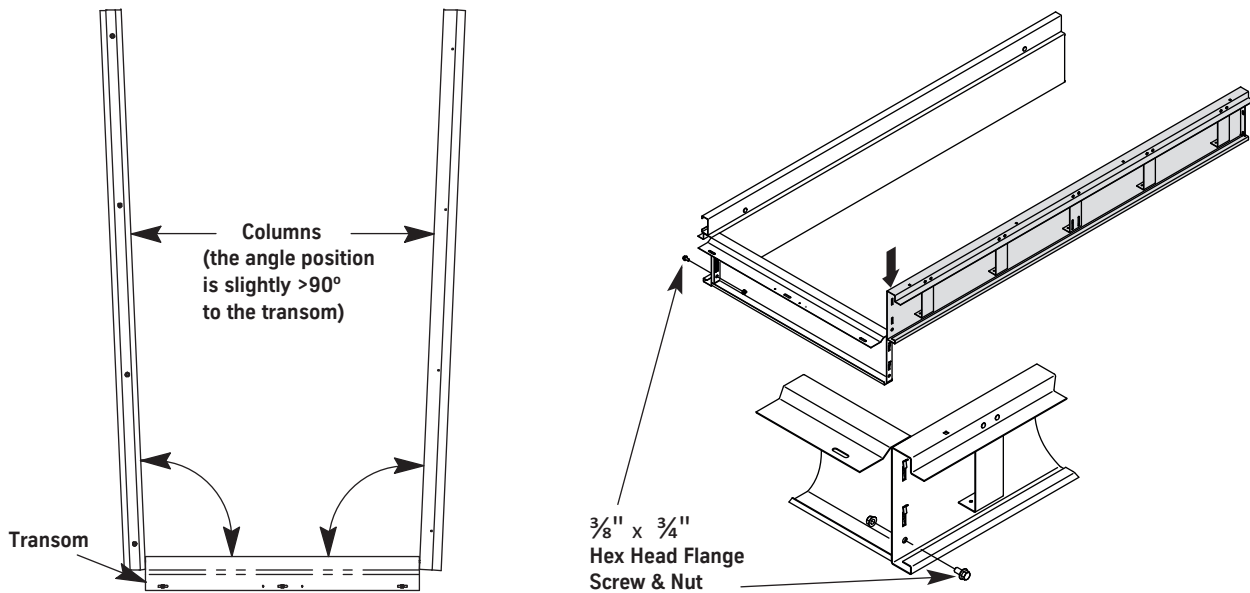

Figure 7- Assemble the Frame
1. Place the entrance columns and transom face down, and position each column at a slight angle to the transom. See Figure 7.